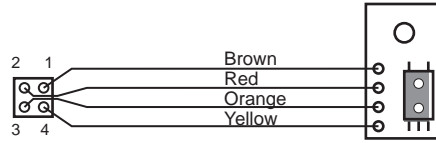
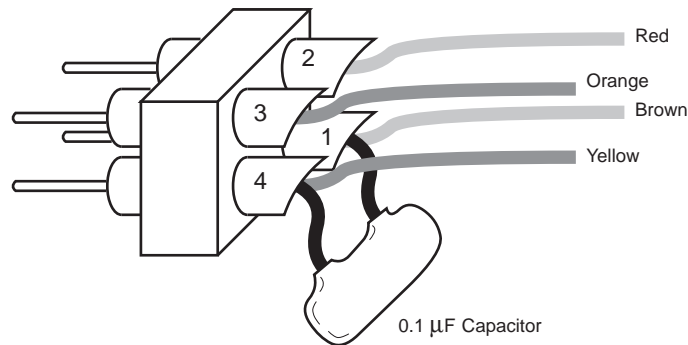

Figure 3.7: Wiring detail for shaft encoder board and cable. The photoreflector is mounted on top side of board; the bottom side has solder traces.
Figure 3.8: A 0.1 μF bypass capacitor is installed directly into the shaft encoder connectors.
- The shaft encoders are mounted off board and thus require a cable. Wire the shaft encoder cables as indicated by the schematic, Figure 3.7. Install a 0.1 μF bypass capacitor (stamped with the number 104) in parallel with the power and ground lines on each shaft encoder connector as shown in Figure 3.8.